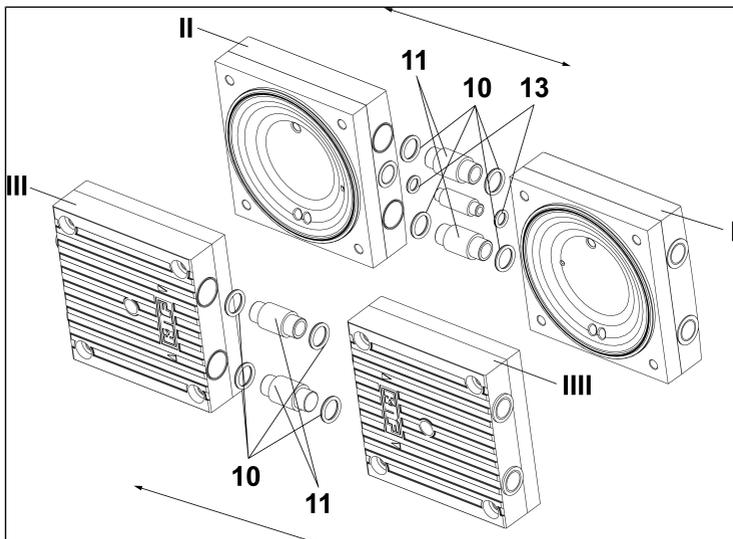

Fig.10: Removal of the O-rings and connection pipes
8. Pull heads 1 (I/Fig. 10) and 2 (II/Fig. 10) apart and remove the O-rings (10/Fig. 10) and (13/Fig. 10).
7. Place the O-rings (10/Fig. 10) and (13/Fig. 10) on the connection.
8. Press heads 1 and 2 (I and II/Fig. 10) together.